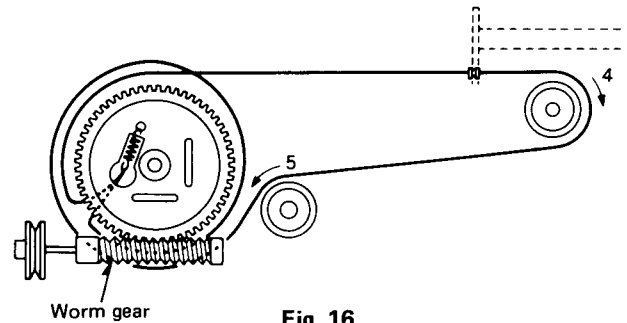

Fig. 16
4. Holding the rope set over the arm drive wheel, set the drive wheel and rope according to the steps 4 ~ 5 in Fig. 16.
7. Mount the E-ring (56) and washer (57).